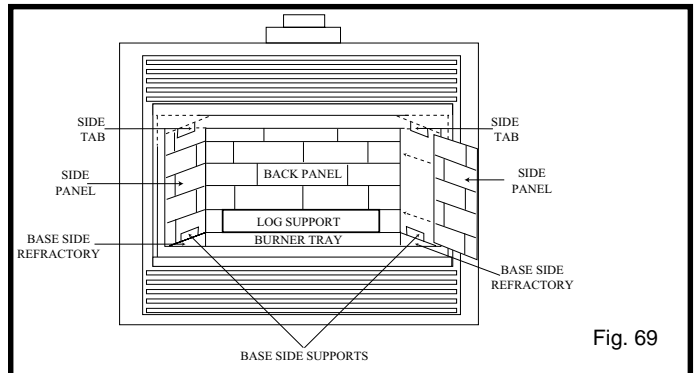

Fig. 69
6. Slide side panels into side supports and behind side tab and adjust, fitting the ceramic tight to the side of the firebox. Tighten nuts. Fig. 69.